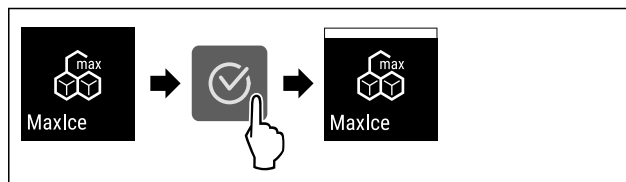

Fig. 22
- ▶ Complete the steps (see Fig. 22) .